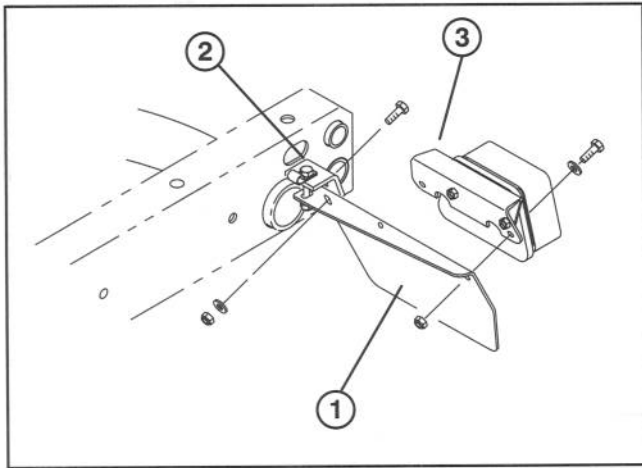

Figure 1
3. Secure rear of each tail light plate to rear of frame brackets with a 1/4-20 x 3/4" lg. cap screw, .281" I.D. flatwasher and nut, as shown in figure 1.
4. On left side, remove (2) cap screws, washers and nuts securing tail light mounting bracket to tail light plate.